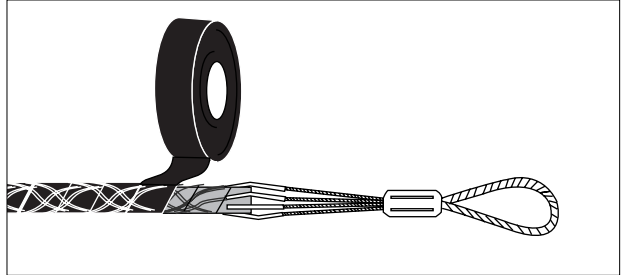

Figure 17 — Taping the grip
Step 19: Starting at least 2.5 cm (1.0 in.) below the mesh on the cable jacket, wrap vinyl tape TIGHTLY to the top of the grip. The mesh's imprint should show clearly through the tape (Figure 17).